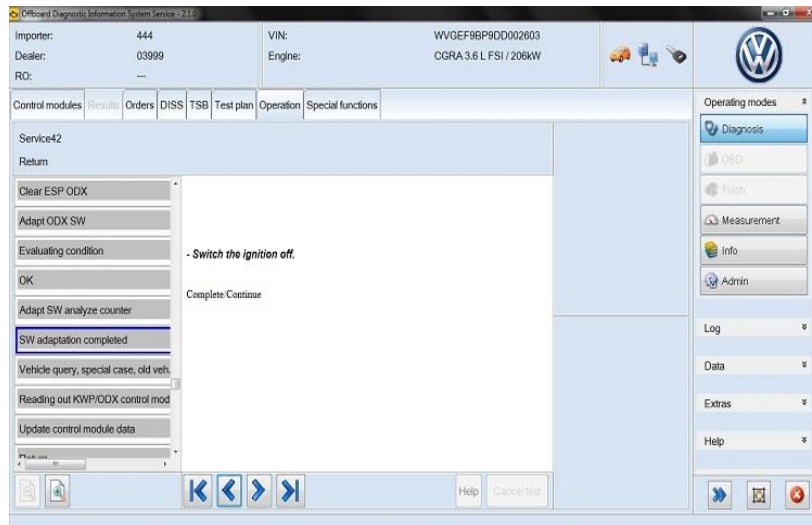

Figure 8
14. When the adaptation completes, switch the ignition OFF (Figure 8).